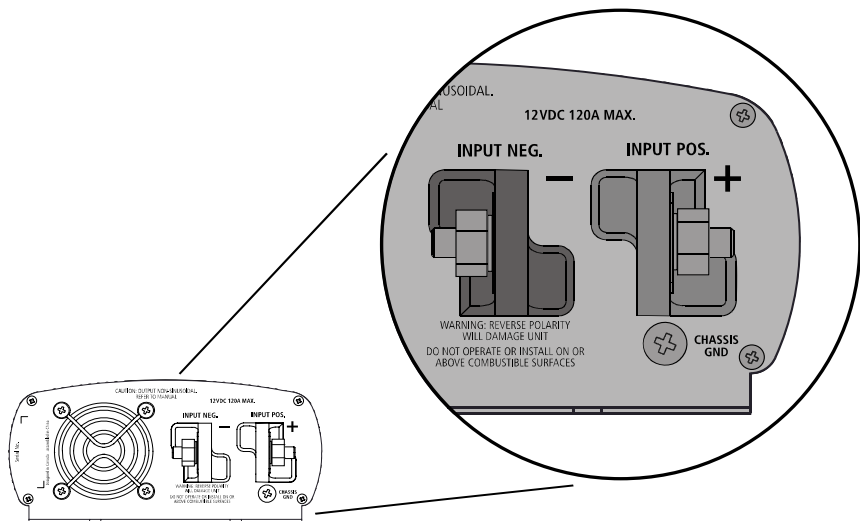

Figure 3-3 DC Panel Connections
See Figure 3-3 on page 3–12.
The Duracell has a screw terminal labelled **CHASSIS GND** on the rear panel as shown in Figure 3-3 on page 3–12. Follow the guidelines in “Grounding Locations” to connect the inverter’s chassis to the ground.
9. Install the lock washer and nut that are supplied with the inverter. Tighten the nut to a torque of **6–7 lbF-in (0.68–0.79 Nm)**. Make the connection snug enough so the ring terminal does not move around on the DC terminal, but do not overtighten. See Figure 3-3, “DC Panel Connections” on page 3–12.